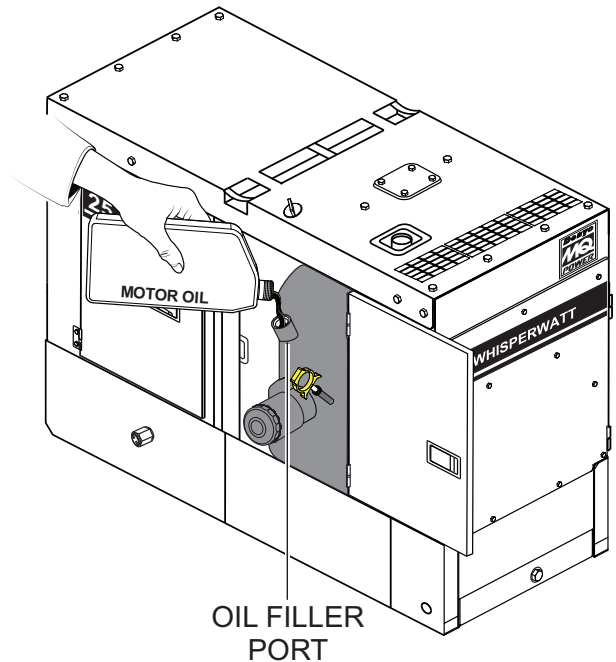

Figure 30. Engine Oil Filler Port
5. If the engine oil level is low (Figure 29C), remove the cap from the oil filler port (Figure 30) and fill to a safe operating level (max) as indicated by the dipstick (Figure 29A). Fill with the recommended oil type as listed in Table 11. Maximum oil capacity is 3.2 gallons (12.2 liters).